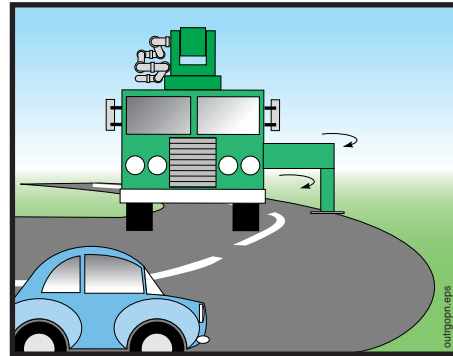

Figure 6
3.14  **WARNING** Be sure that outriggers are pinned and locked before traveling. If the locking device is damaged or worn, it should be repaired immediately and the unit **must not be driven until the outriggers can be positively locked** against accidental opening (see Figure 6).